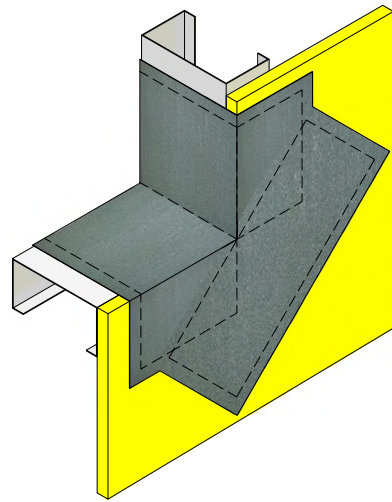

Figure 10
6. Apply additional Senershield-R/-RS/-VB onto the Sheathing Fabric to embed. Verify Sheathing Fabric is smooth, free of wrinkles, and voids. (See Figure 10)